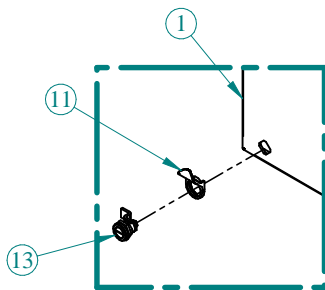

FIG. 5
- 5) INSTALL 1/4 TURN LATCHES AND FINGER PULL IF REQUIRED (FIG. 5 & 6)
- d) ENSURE LATCHES ROTATE AS SHOWN IN FIG. 5